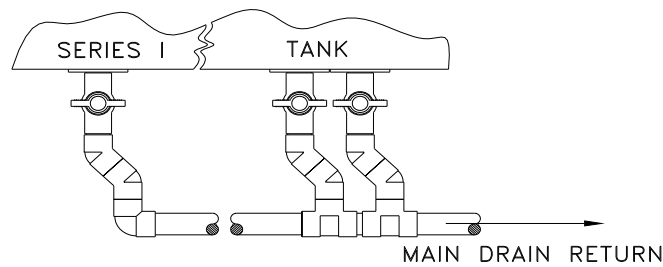
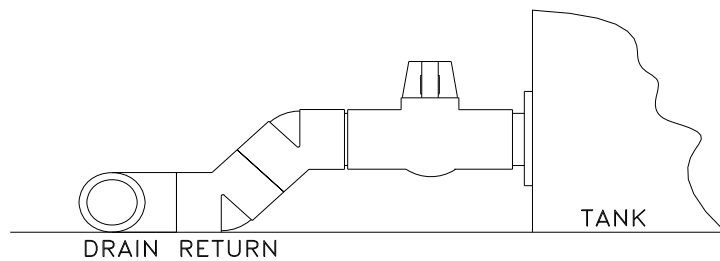

Figure TNK-2
Figure TNK-3
- C. Attach three 1-1/2" **BALL VALVES** with 1-1/2" pipe and connect to the **DRAIN CONNECTIONS** (labeled S1D-1, S1D-2, S1D-3 on the P&ID Diagrams). Plumb the tank drains to the main drain return line as shown in Fig. TNK-2-TNK-4. Note: Piping and fittings for the main drain return line are not supplied. First, glue both 45° 1-1/2" fittings
together as shown in Fig TNK-2 on a flat surface. Before gluing the 45° fittings into the 1-1/2" tee, rotate subassembly to floor as shown in Fig. TNK-3. Glue total assembly into place. Connect each drain valve assembly together and lead to the main drain return. This procedure holds the drain valves square with the tank.